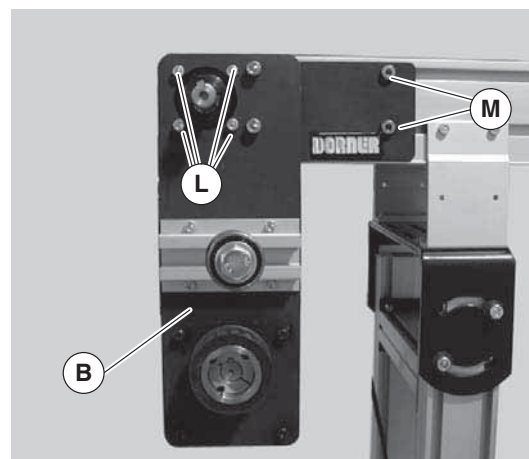

Figure 4
3. Attach bottom mount drive assembly (Figure 4, item B) with two (2) M8 screws (M) and four (4) M6 screws (L). Tighten M6 screws (L) to 146 in-lbs (16.5 N-m) and M8 screws (M) to 288 in-lbs (32.5 N-m).